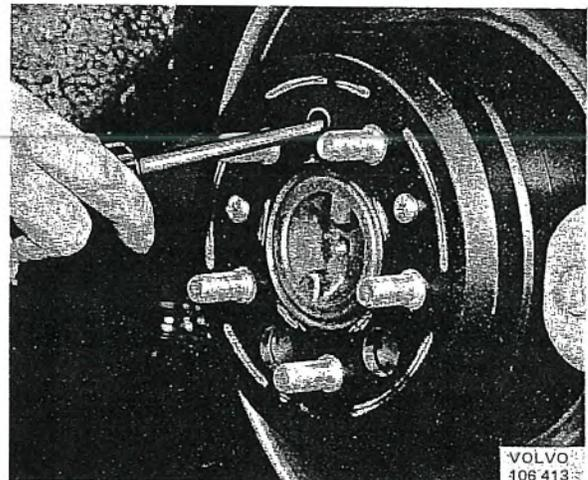

Fig. 5-81. Adjusting parking brake, rear wheel
4. Set the drum so that its hole coincides with the serrations on the adjusting screw and apply the shoes by moving the screwdriver handle upwards, see Fig. 5-81. When the drum can be rotated easily, discontinue applying the shoes. Then turn the adjusting screw back 4-5 serrations. Check that the shoes do not "drag" by rotating the drum in its normal direction of rotation. Very little dragging may be permitted. If, however, the dragging is more pronounced, the adjusting screw should be released a further 2-3 serrations.
1. Adjust the brake shoes of the rear wheels. Check that the brake pads do not stick to the brake disc and adjust the drum so that its hole coincides with the serrations of the adjusting screw. Place a screwdriver between the serrations of the adjusting screw and apply the shoes by moving the screwdriver handle upwards, see Fig. 5-81. When the drum can be turned easily, discontinue applying the shoes. Then turn the adjusting screw 4-5 serrations back.